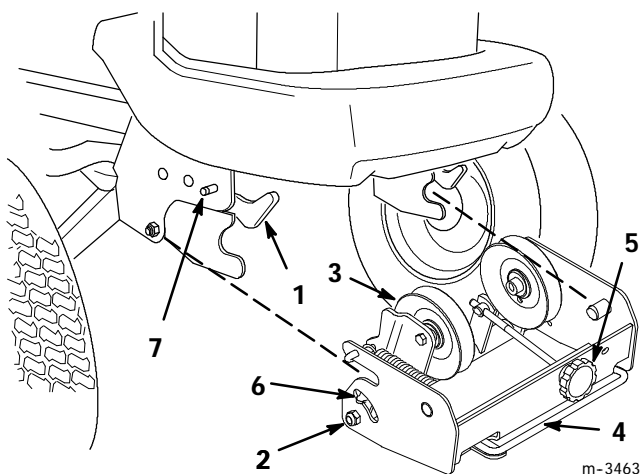

Figure 4
4. Attach the pulley box if it is not already on the tractor. Make sure the latches on the tractor's front Attach-A-Matic[™] are open (Fig. 4). Then slide the pulley box into the Attach-A-Matic[™] latches and seat it.